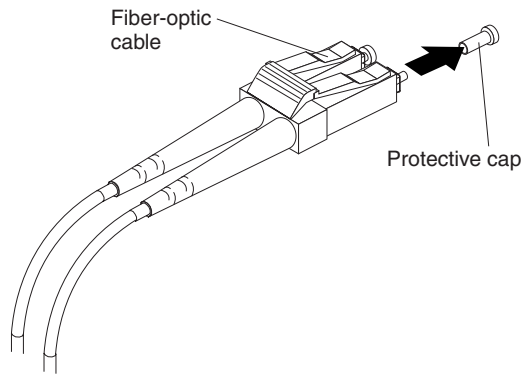

Figure 28. Removing fiber optic cable protective caps
3. Remove the two protective caps from one end of the LC-LC cable, as shown in Figure 28 on page 41. Save the protective caps for future use.